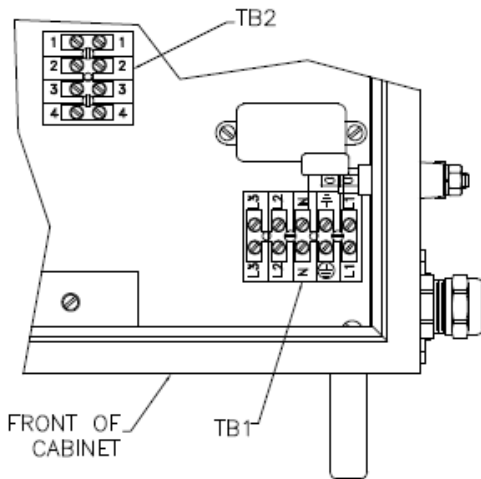

Figure 5: Location of TB1 & TB2 in Controller
1. **Ensure the AC line cord is unplugged** and remove the AC inlet receptacle wiring from TB1-N, TB1-L1 and TB1-EARTH GROUND (See Figures 5 and 7).